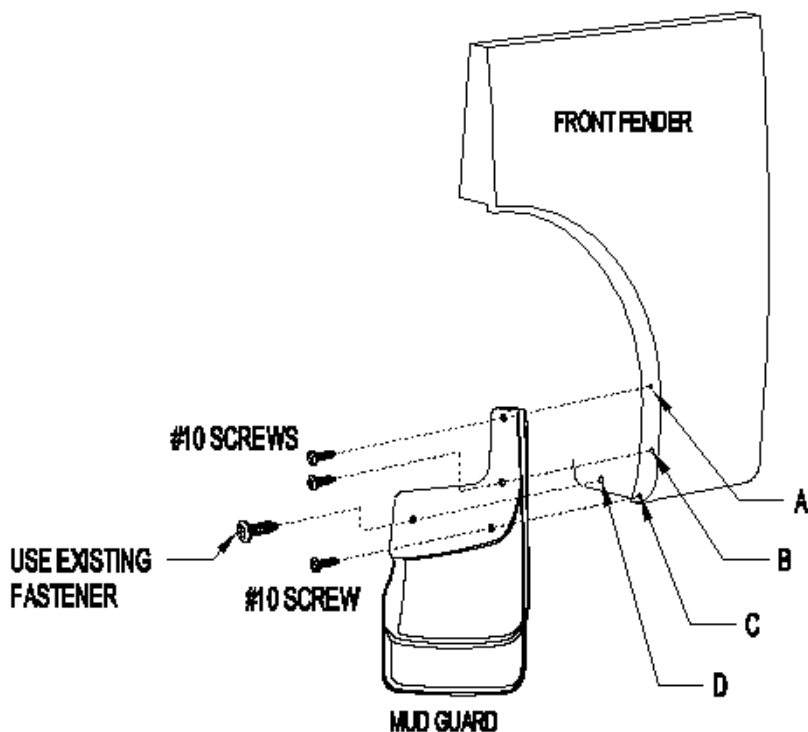

Figure 1
2. Using a wrench remove existing fastener from location D (see figure 1) (fastener type varies from vehicle to vehicle).